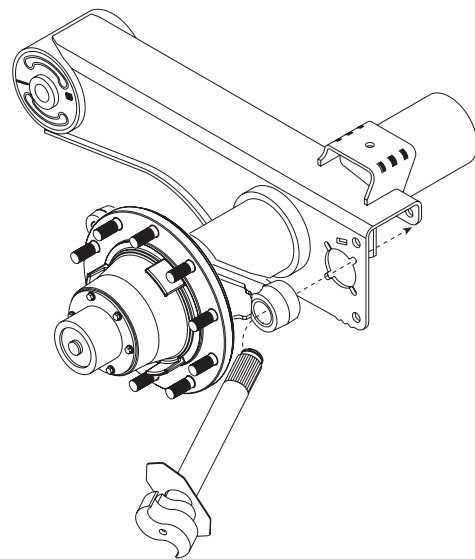

Figure 19: Installing the S-cam assembly
6. **Angle and slide** this S-cam assembly through the spider and beam (Figure 19). Even with the hub in place there is enough clearance to angle and insert the S-cam as long as the spider S-cam bushing has not been installed.